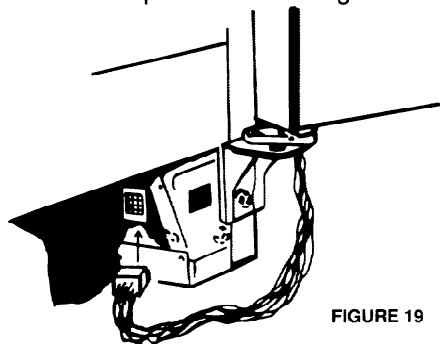

FIGURE 19
4. Disconnect at connector. Push lock tab on underside of connector up and then pull loose. See Figure 19.